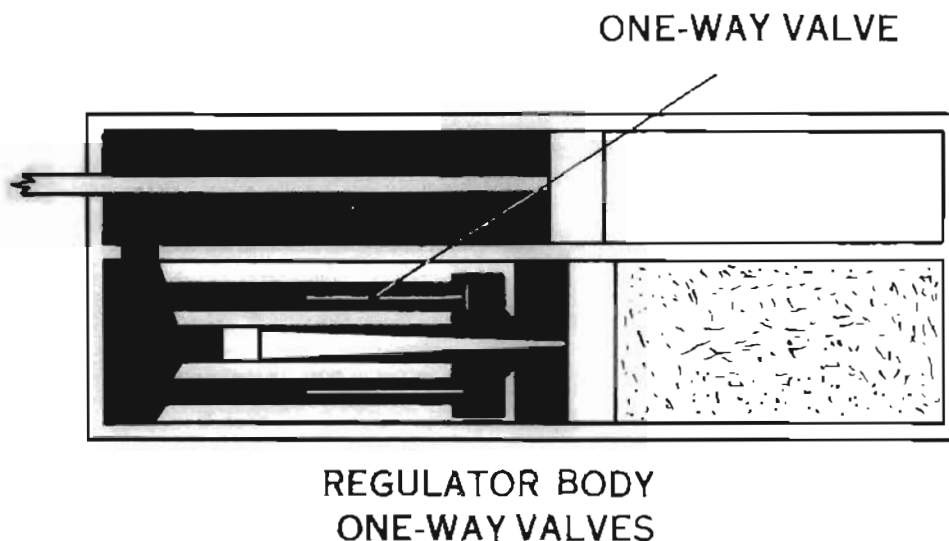

Figure 40
3. Recoil piston continues moving to rear, and oil is forced into regulator body; oil contacts and forces open one-way valves of regulator (fig. 40).